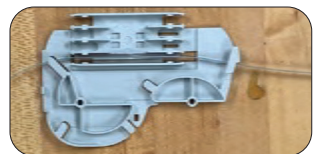

Figure 11
12. Load splice protectors into splice holder. **(Figure 11)**